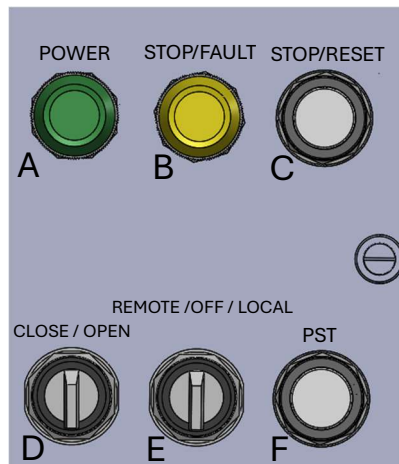

Figure 1. Control panel (left) and needle valve to control flow (right)
- a. Using a 5mm hex key, turn the needle valve (Figure 1.G) clockwise until it is completely closed. Alternatively, powering the solenoid coil has the same effect as closing the needle valve.
- a. Select the desired control mode using the 3-position switch (Figure 1.E). Turning fully clockwise will select local control mode, and turning fully counterclockwise will select remote control mode.
- a. Prior to motorized operation ensure that the needle valve (Figure 1.G) is open by at least one counterclockwise turn. Open further to allow more flow and close the pipeline valve faster.
- b. In local control mode the 2-position switch (Figure 1.D) will open/close the valve. Turn fully clockwise to open the valve. Turn fully counterclockwise to close the valve.
- i. The amber stop/fault light (Figure 1.B) will light while a stop command is active.
- d. In local control mode press the stop/reset pushbutton (Figure 1.C) to activate a stop command. Press the pushbutton again to cancel the command and resume operation.
- a. Prior to initiating a PST ensure that the needle valve (Figure 1.G) is open by at least two counterclockwise turns.
- c. To locally initiate a PST, press the PST pushbutton (Figure 1.F).
- i. To reset the system, press the local stop/reset pushbutton (Figure 1.C).
- a. The green pilot light (Figure 1.A) is lit when power is supplied to the control's enclosure.
- b. The amber pilot light (Figure 1.B) is lit when a stop command is active.